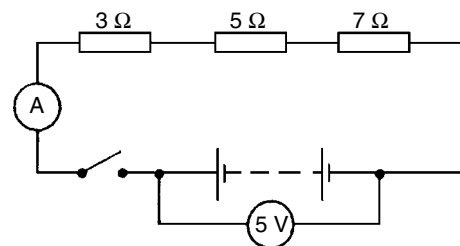

Figure 5.37
- With the switch in Fig. 5.37 closed, the ammeter reading will indicate: (a) 1 A (b) 75 A (c) $\frac{1}{3}$ A (d) 3 A